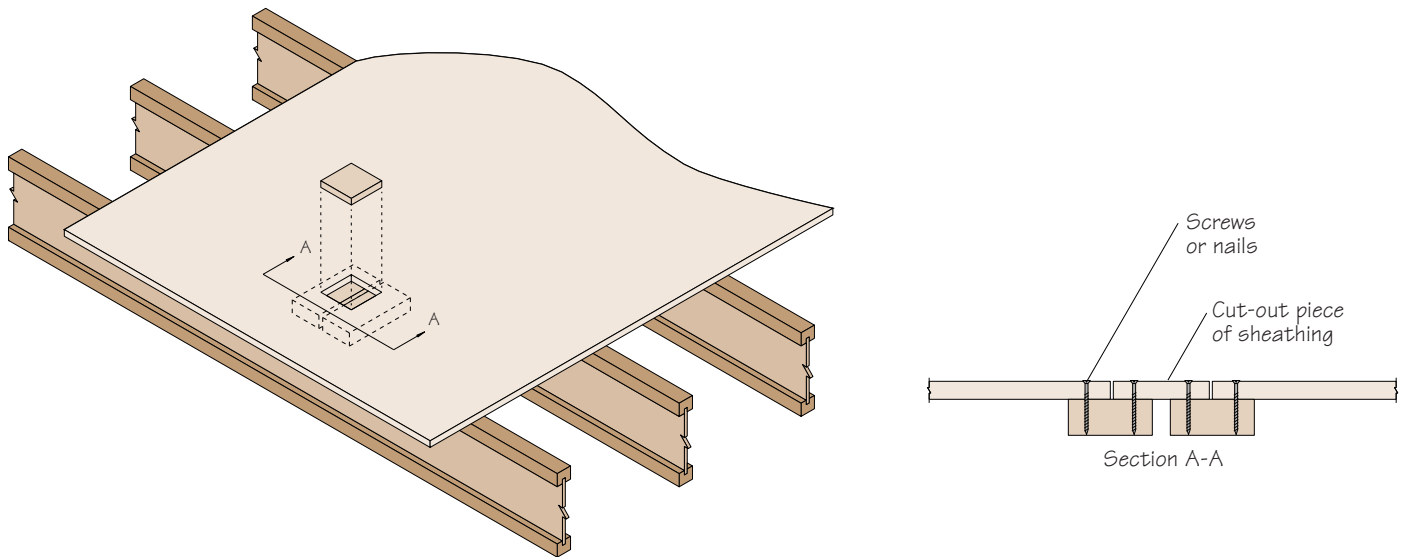

Figure 22
- Glue and screw the cut-out piece of sheathing back in place on the 2x4s (Figure 22).